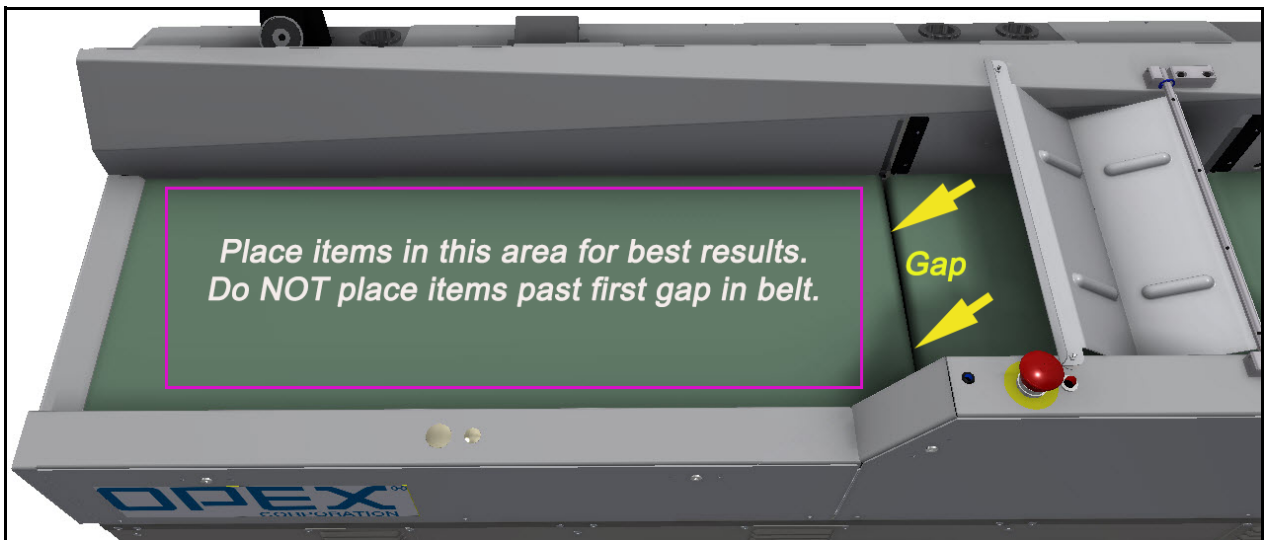

Figure 4-34: Conveyor “Drop Zone”
5. Place the item on the belt as shown below (see Figure 4-34).